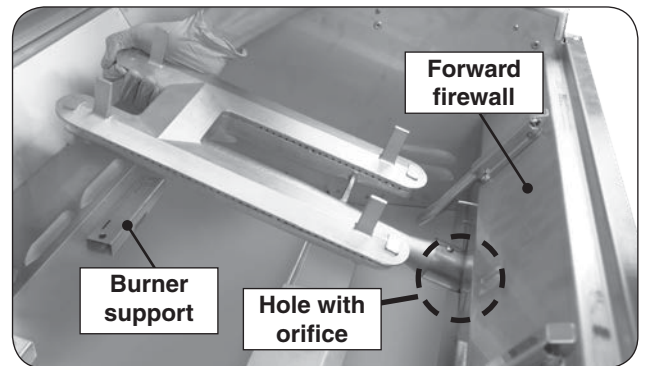

Fig. 34-3 Remove burners
3. Carefully lift the burner from the burners support and out from the hole in the forward fire wall. See Fig. 34-3.